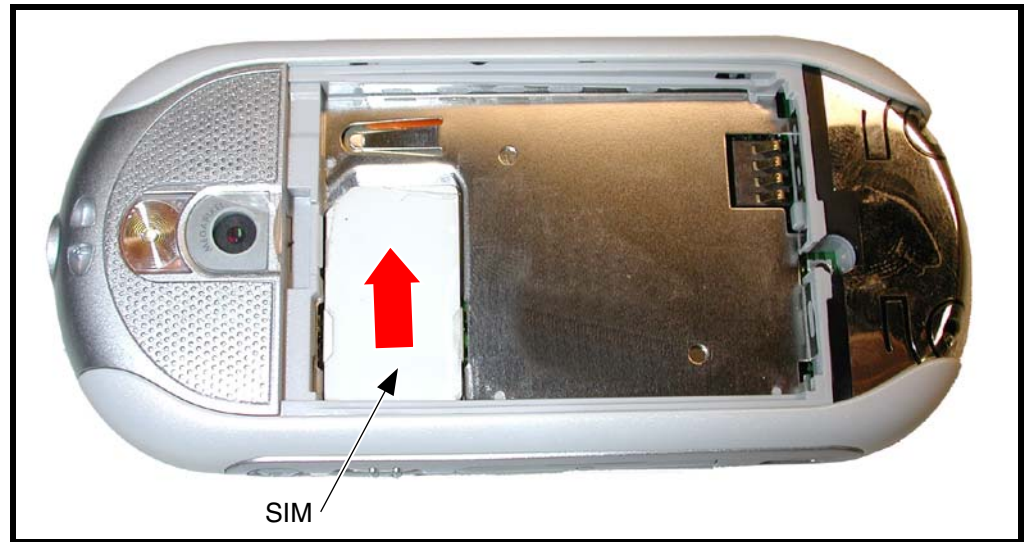

Figure 10. Removing the SIM
2. Remove the SIM from the phone by sliding it in the direction indicated as shown in Figure 10.